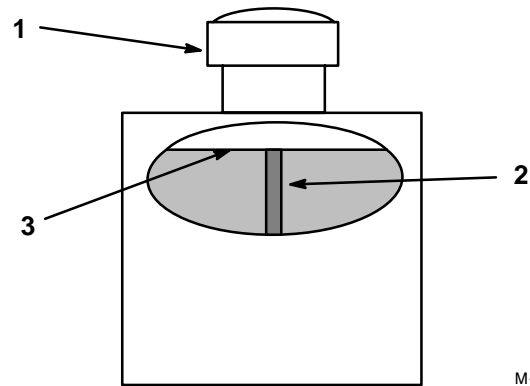

Figure 34
2. Clean area around filler neck of hydraulic tank (Fig. 34).
3. Remove cap from filler neck. Look inside to check if there is fluid in the reservoir. (Fig. 34).
**Note:** Fluid level should be to the top of the baffle when fluid is warm (Fig. 34).